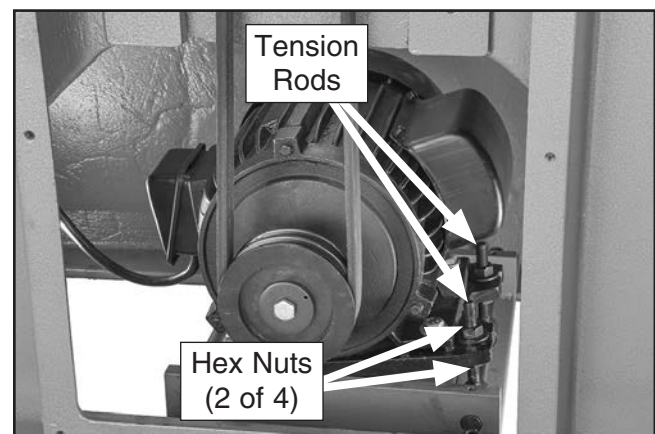

Figure 41. Location of motor tension rods and hex nuts.
4. Loosen hex nuts on motor tension rods (see **Figure 41**).
5. Press down on motor until there is proper tension on V-belts. While holding motor down, tighten hex nuts on tension rods (see **Figure 41** on **Page 35**).
3. Loosen hex nuts on motor tension rods (see **Figure 41** on **Page 35**).